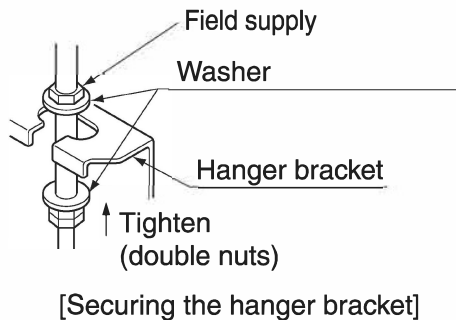

Fig. 10
- Attach the hanger bracket to the suspension bolt. Be sure to fix it securely by using a nut and washer (3) from the upper and lower sides of the hanger bracket. **(Refer to Fig.10)**